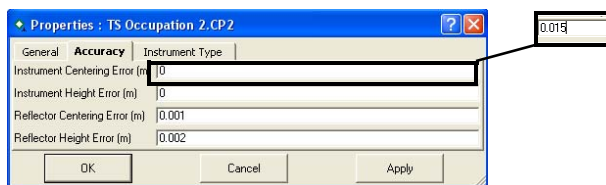

Figure 5-83. Accuracy Properties for TS Occupation
- On the *Accuracy* tab, type in the corresponding values for the error of centering instrument/reflector and for the error of the instrument's/reflector's height measurement (Figure 5-83).